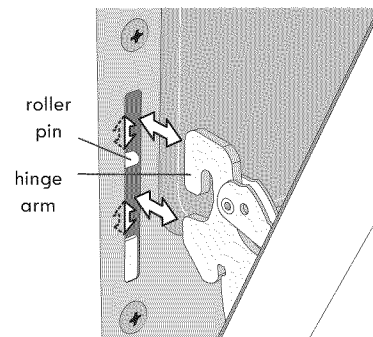

Figure 45: Hinge pin locations
5. With the oven door in the stop position, lift the oven door hinge arms over the roller pins located on each side of the oven frame (Figure 45).
2. Holding the oven door at the same angle as the removal position, seat the hook of the hinge arm over the roller pins located on each side of the oven door frame (Figure 45). The hook of the hinge arms must be fully seated onto the roller pins.